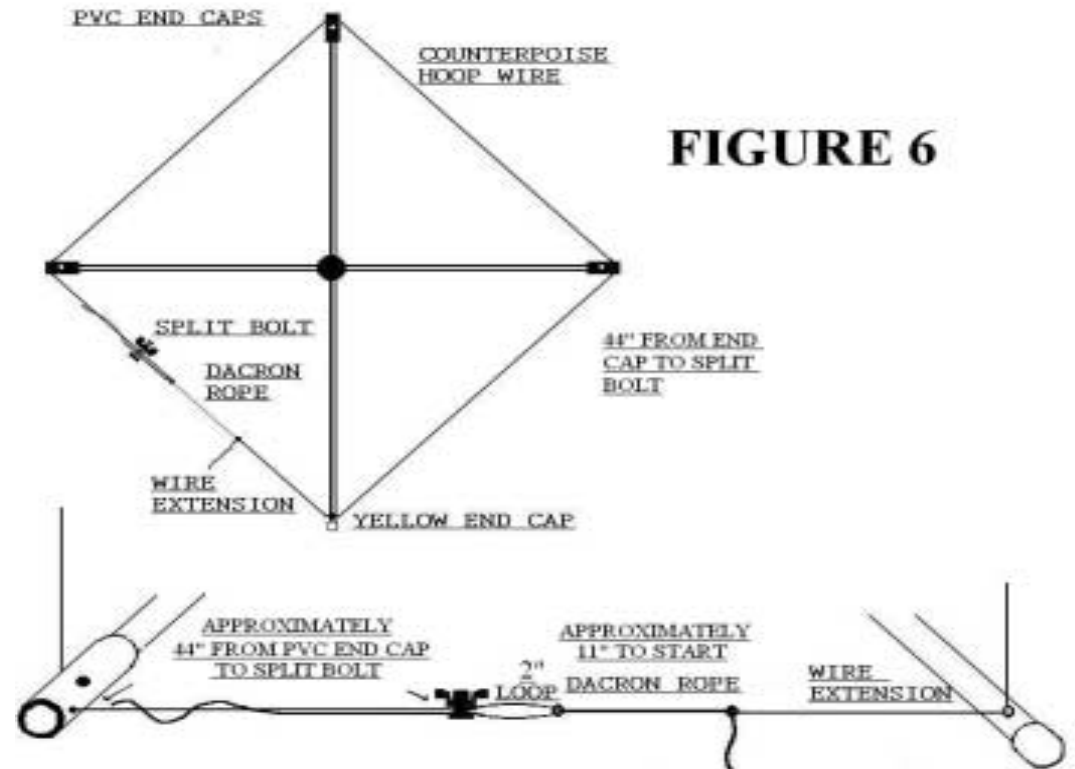

FIGURE 6
- F) Take the ring terminal from the Counterpoise Hoop wire and one terminal from the wire extension. Place both terminals over the drill hole at the end of the 80" counterpoise rod that has the yellow end cap and is attached to the aluminum tube on the Counterpoise bracket. see figure 6. Insert a screw attaching these terminals to the Counterpoise rod.
5.2 COUNTERPOISE ASSEMBLY see figure 6